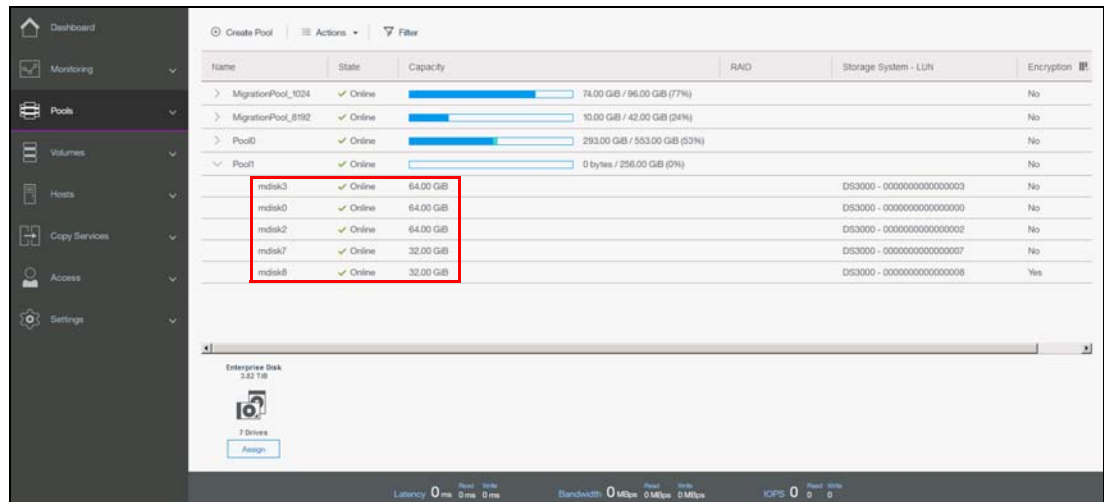

Figure 11-8 External MDisk displayed on MDisk by Pools panel
12. The external MDisks that are assigned to a pool within Lenovo Storage V5030 are displayed under the MDisks by Pools panel as shown in Figure 11-8 on page 615. Create volumes from the storage pool and map them to hosts, as needed. See Chapter 6, “Volume configuration” on page 269 to learn how to create and map volumes to hosts.